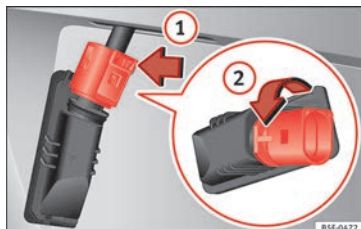

Fig. 118 Number plate light: Remove the bulb holder.
3. In the connector lock, turn »» Fig. 118 towards the arrow ① and pull the connector.
4. Rotate the bulb holder in the direction of arrow ② and extract it with the bulb.
6. Insert the bulb holder in the number plate light and turn in the opposite direction of arrow ② until it stops.